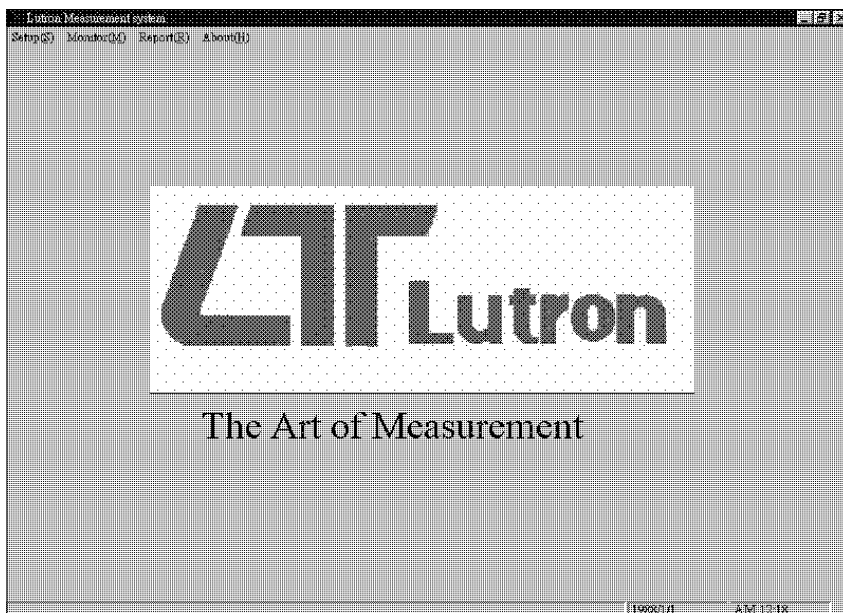
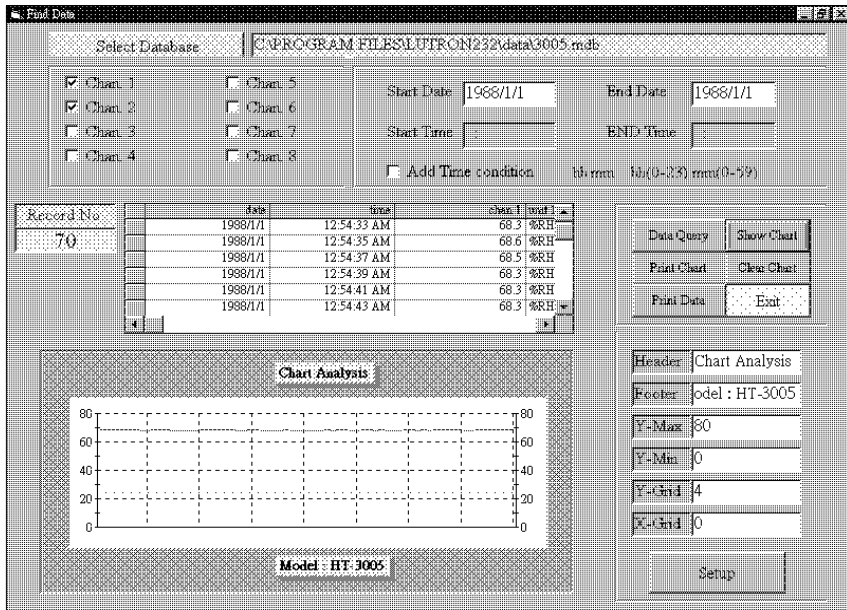

Fig. 1
Fig. 9
After run the program & the computer will show the Fig. 1.
1. Select " Angular Display " from the commander line of measurement system dialog box ( Fig. 1 ), and you will see the *Angular Display dialog box with four sheet.*
Select the Data Query from the " Report " menu in the Measurement system dialog box. ( See Fig. 1 ) to entry the " Data query " program. ( See Fig. 9 )